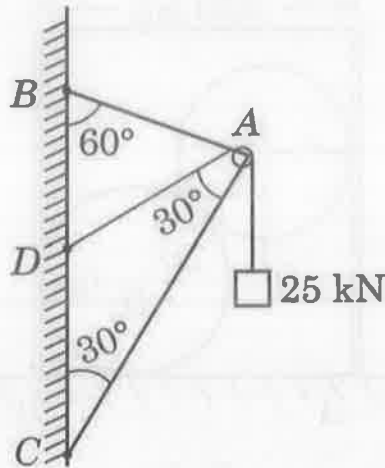

Fig 4
- (b) The frictionless pulley A shown in Fig. 4. Is supported by two bars AB and AC which are hinged at B and C to a vertical wall. The flexible cable DA hinged at D, goes over the pulley and supports a load of 25 kN at A. The angles between the various members are shown in the figure. Determine the forces in the bars AB and AC. Neglect the size of pulley and treat it as frictionless.